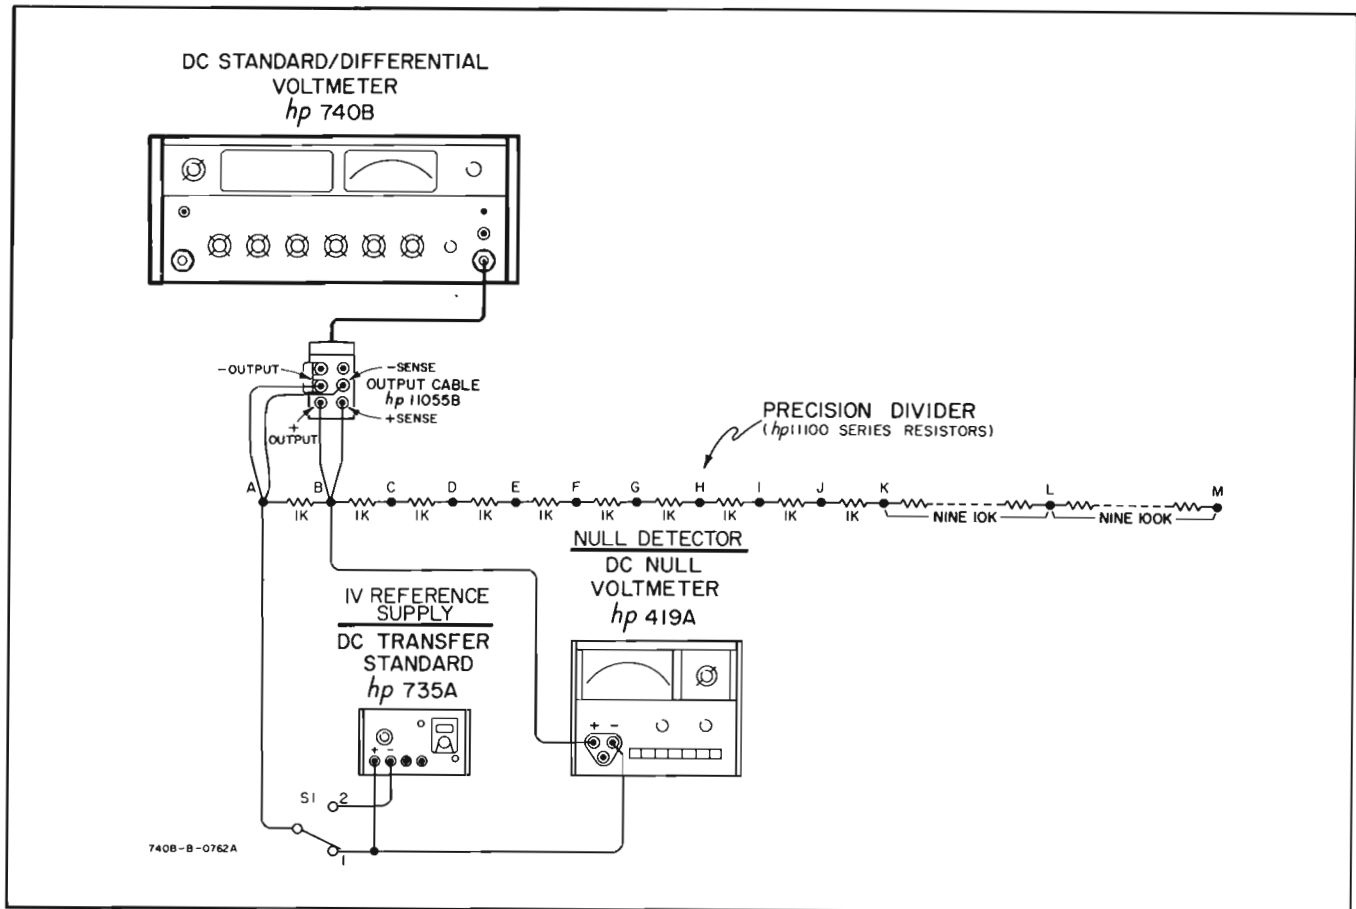

Figure 5-1. DC Standard Accuracy Test
- a. Construct test setup shown in Figure 5-1. Make all connections with insulated solid copper wire, 20 gauge or larger. S1 should be a solid copper contact knife switch. Connect Model 740B power input to a variable line transformer supplying 115 or 230 Vac.